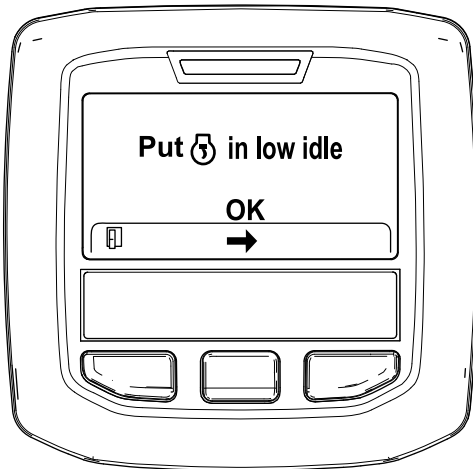

Figure 33
6. Move the throttle control to LOW IDLE and press the center button (Figure 33).